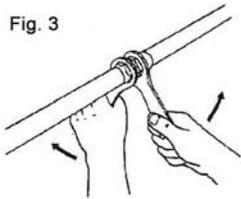

Fig. 3
- After connecting these two elements in the outershells, fasten upper FRP outershell joint bracket with special wrenches as shown in Fig. 3. Fasten the bracket thoroughly until there is no gap between each part of the bracket.